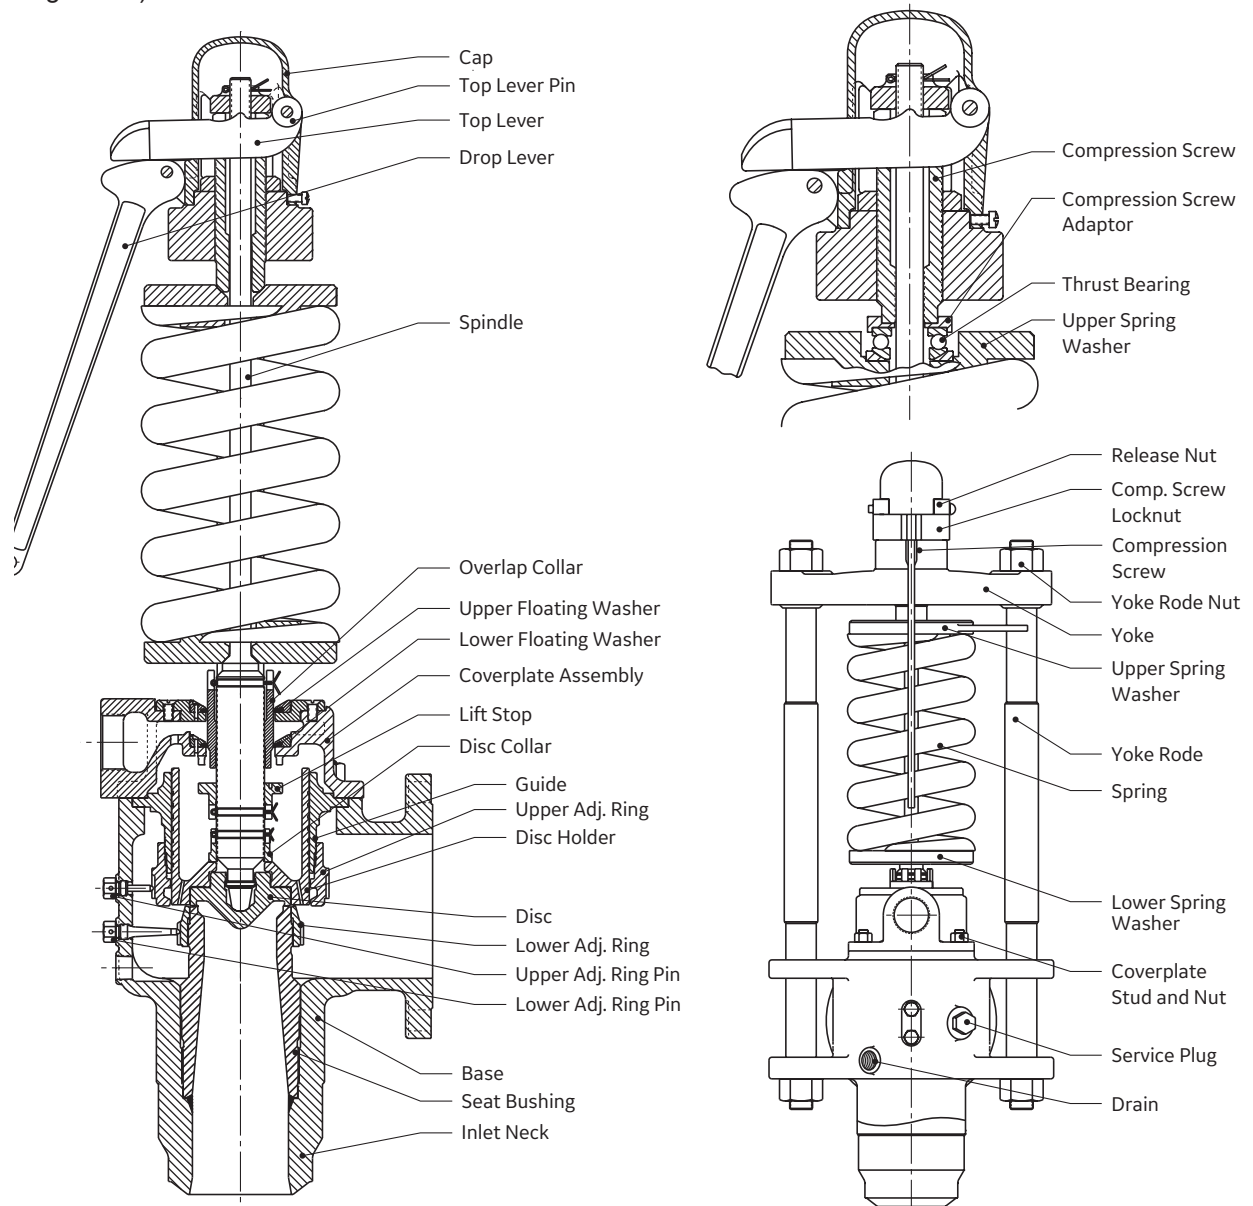

Figure 37: Hydroplug
Refer to Figure 37 on Section XVIII.B. Remove top lever pin and top lever then loosen the cap screw.
3. Always be certain that all parts are clean and free of dirt and foreign material. Dirt trapped on seating surfaces or in the inlet, when the valve is reassembled, will damage the seats. Reassemble the valve as outlined in Section XV of this manual. The lug on the top spring washer should be on the left side of the valve when facing in the same direction as the outlet. (See Figure 37.)
5. Remove the top lever from the cap, and reassemble in position in accordance with Figure 37. If properly positioned, the top lever should have .125" (3.175 mm) of vertical movement prior to engaging bottom surface of release nut. The valve is now ready for the initial field test, on steam, to check valve set point and blowdown.